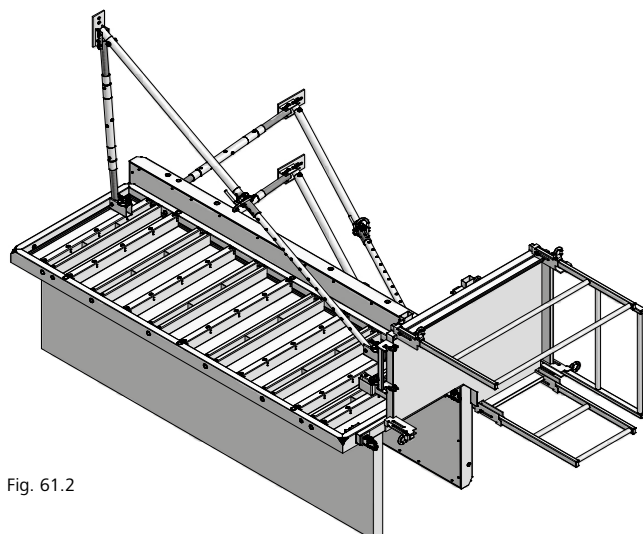

Fig. 61.2
4. Screw the hammer-head screws into the access platform and tighten the wing nuts (Fig. 61.2).